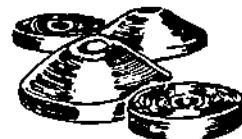

Figure 23-3. Four Types of Washers
5. Bevelled or flat compression-type faucet washers (Figure 23-3) come in sizes from 6.4 mm to 19 mm.